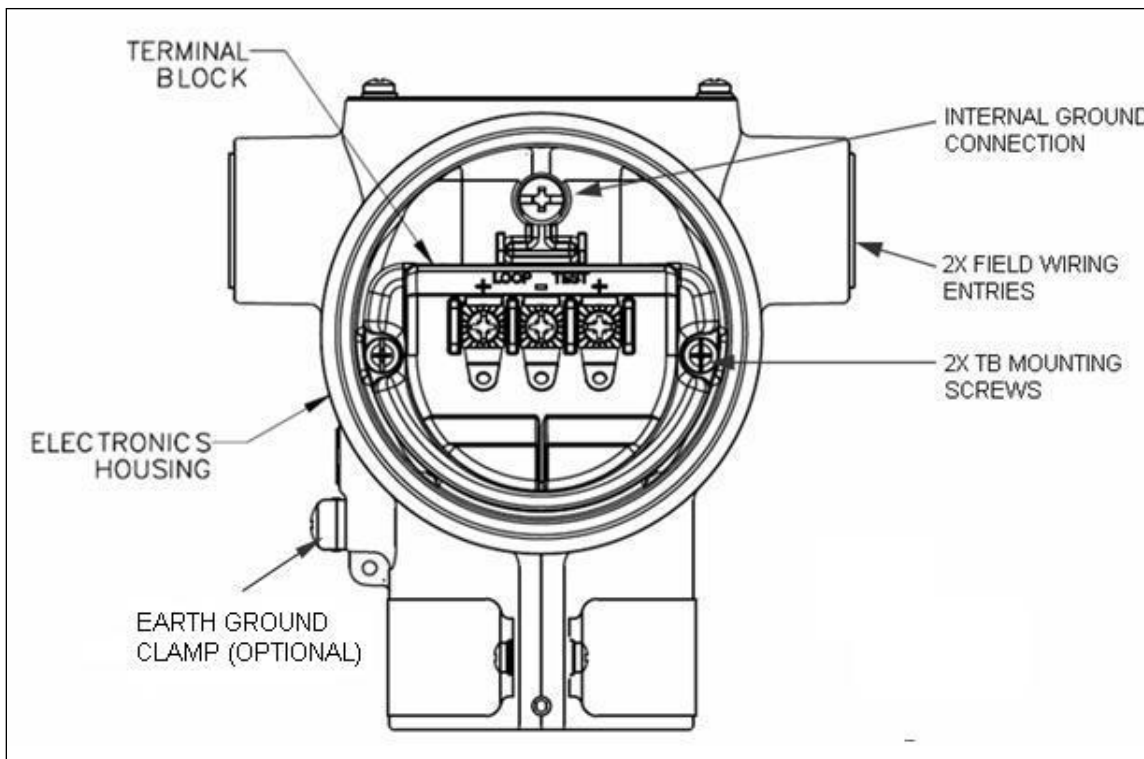

Figure 15 – ST 700 Standard Transmitter - 3-Screw Terminal Board and Grounding Screw
Loop wiring is connected to the Transmitter by simply attaching the positive (+) and negative (–) loop wires to the positive (+) and negative (–) terminals on the Transmitter terminal block in the Electronics Housing shown in Figure 15.
As shown in Figure 15, each Transmitter has an internal terminal to connect it to earth ground. Optionally, a ground terminal can be added to the outside of the Electronics Housing. While it is not necessary to ground the Transmitter for proper operation, doing so tends to minimize the possible effects of noise on the output signal and affords protection against lightning and static discharge. An optional lightning terminal block can be installed in place of the non-lightning terminal block for Transmitters that will be installed in an area that is highly susceptible to lightning strikes.
1. See Figure 15, above, for parts locations. Loosen the end cap lock using a 1.5mm Allen wrench.
If your Transmitter includes the optional lightning protection, connect a wire from the Earth Ground Clamp (see Figure 15) to Earth Ground to make the protection effective. Use a size 8 AWG or (8.37mm²) bare or green covered wire for this connection.